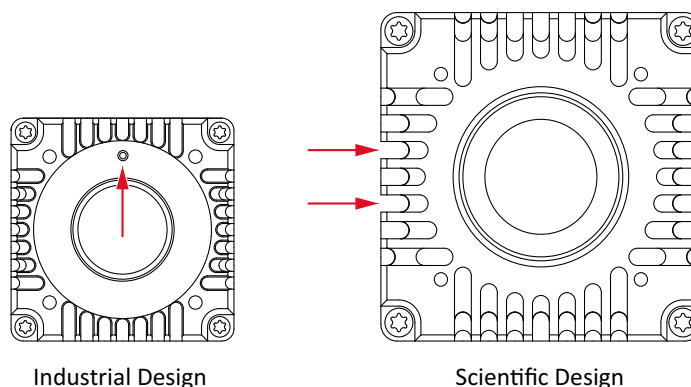

Figure 71: Position of safety screws on mount adapters for Goldeye G/CL
Mount adapters for Goldeye cameras are secured with locking screws, see Figure 71. These locking screws must be loosened before removing mount adapters.
- Loosen the locking screw (2, shown from back of adapter) on the outside of the mount adapter. See Figure 71 on page 255 for the position of the locking screws.
2. Unscrew the adapter (1) from the camera:
- Loosen the locking screw (2) on the outside of the mount adapter. See Figure 71 on page 255 for the position of the locking screws. Use a 1.3 mm hex key for **Goldeye G/CL-008 SWIR Cool TEC1, G/CL-032 SWIR Cool TEC2** models. Use a 0.9 mm hex key **for all other models**.